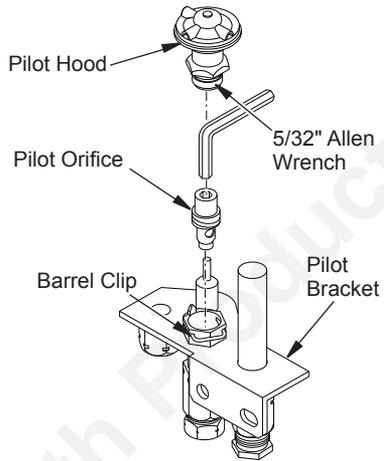

Figure 51 - Converting Pilot
1. Wait five (5) minutes to clear out any gas. Smell for any gas odor, especially near the floor. If any gas odor is present, STOP! See *For Your Safety Read Before Lighting* on page 25.
7. Remove pilot hood by pulling up until it disengages from barrel. Do not remove the retainer clip (see Figure 51).